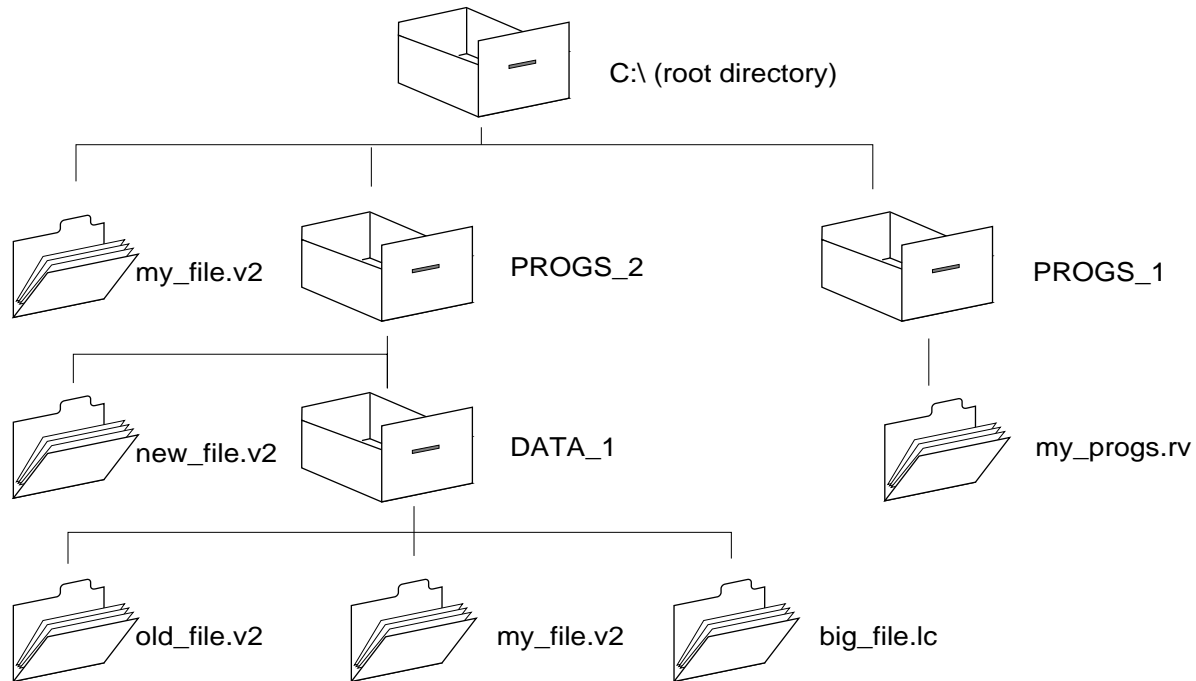

Figure 3-3. Directory Structure
**Figure 3-3** shows a simple directory structure.
Assume you set the default path to C:\PROGS\_2\. The following commands will attempt to load the indicated files (as shown in Figure 3-3):